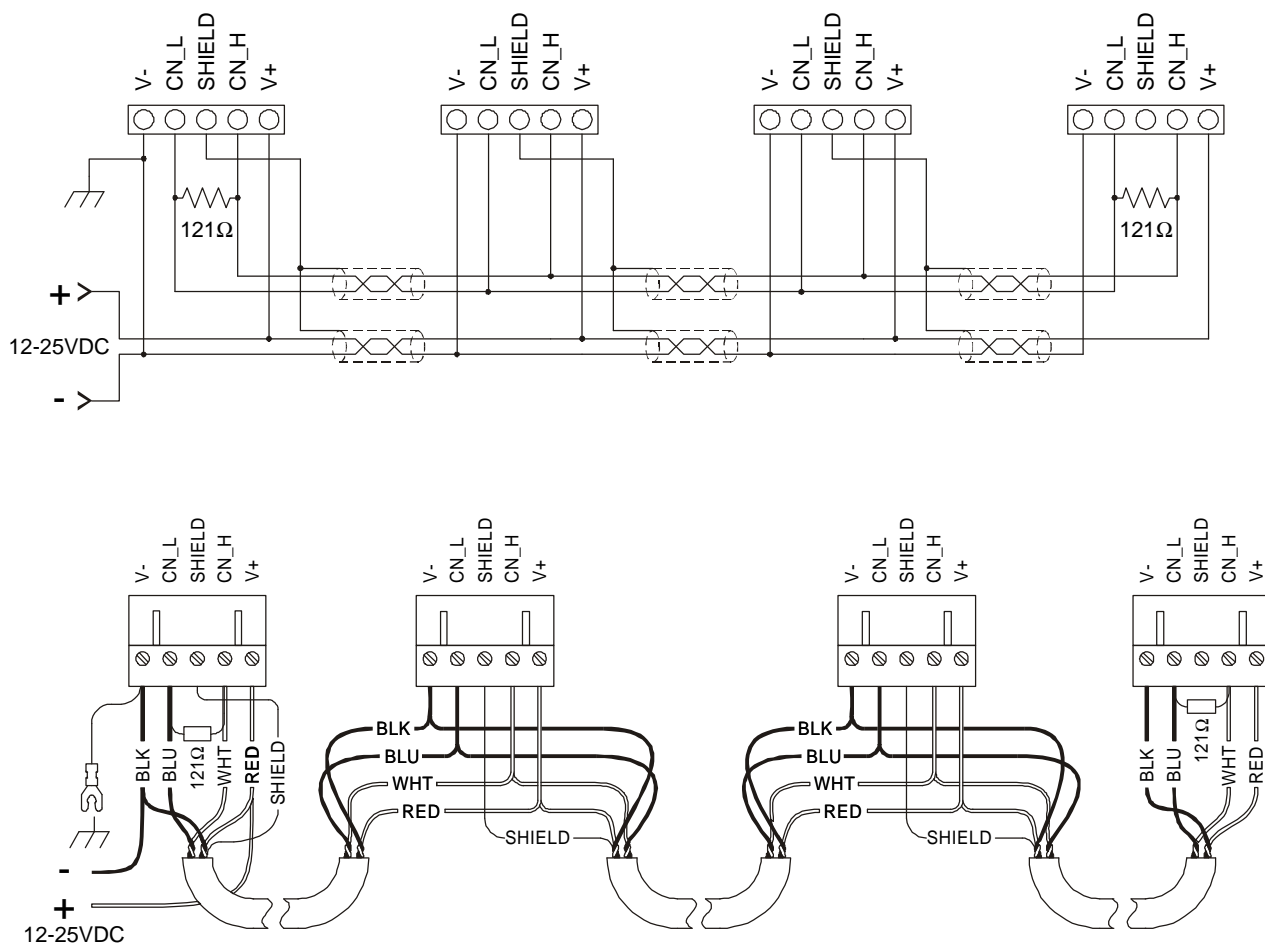

Figure 2.16 – CAN Wiring
a. CAN Wiring Rules (See Figure 2.16.)